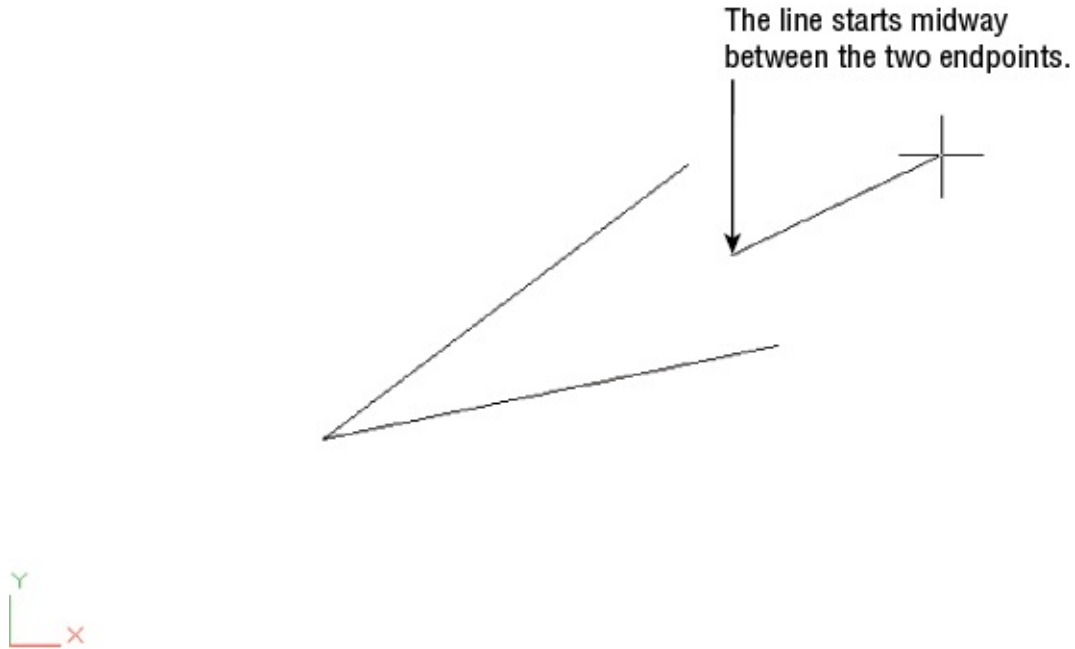

FIGURE 14.31 Starting a line between two endpoints
3. The coordinate value from the display area is pasted into the command line at the Line command's Specify first point: prompt. Press \leftarrow to accept the input from QuickCalc. You see a rubber-banding line beginning at a point midway between the two endpoints of the lines that you selected in the previous exercise (see Figure 14.31).